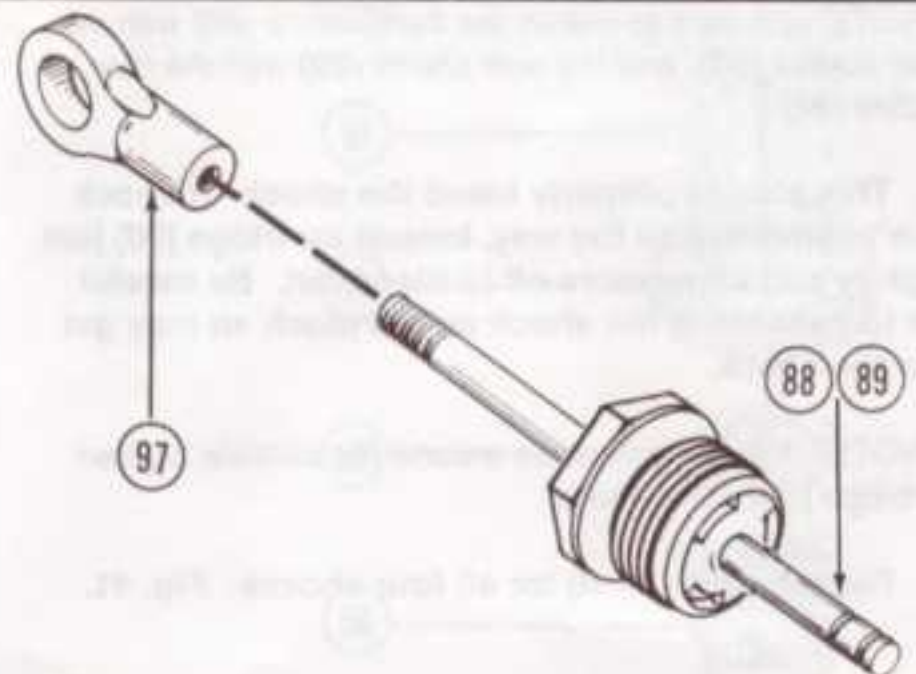

FIG. 39
2. Grasp the shock shaft [Front (88), Rear (89)] between the grooves in the end with a pair of needle nose pliers and thread on the lower shock mount (97). Fig. 39.